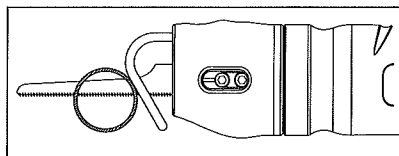
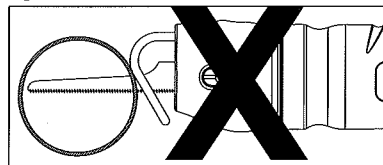

Figure 5: Correct
Figure 6: Not Correct
- To reduce the risk of injury, be sure the blade always extends beyond the blade guide and work throughout the stroke (Figure 5). Blades may shatter if the front on the blade hits the work and/or the blade guide (Figure 6).
- Maintain a minimum of three (3) teeth engaged in the work. Finer teeth produce a smoother but slower cut.